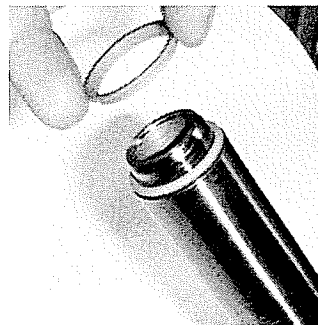

Figure 16
9. Align seal with plunger. cross section "L" shape of seal should be upside down (figure 16).